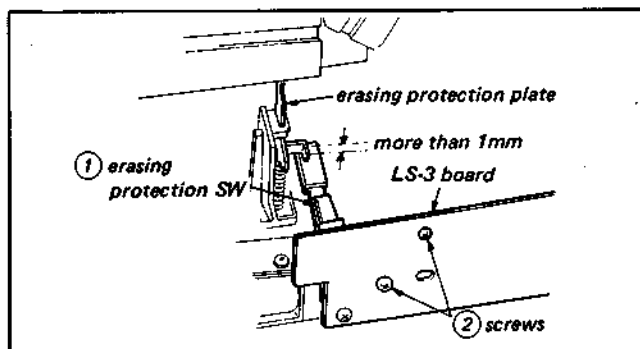

Fig. 3-37. Position adjustment of erasing protection microswitch
3. Check that the contact point of the erasing protection microswitch shown in Fig. 3-37 closes.
4. Loosen screws ② and adjust the position of the switch while lowering the cassette with lid opened so that the cassette stops at the position more than 1mm from the contact point of the switch opens.